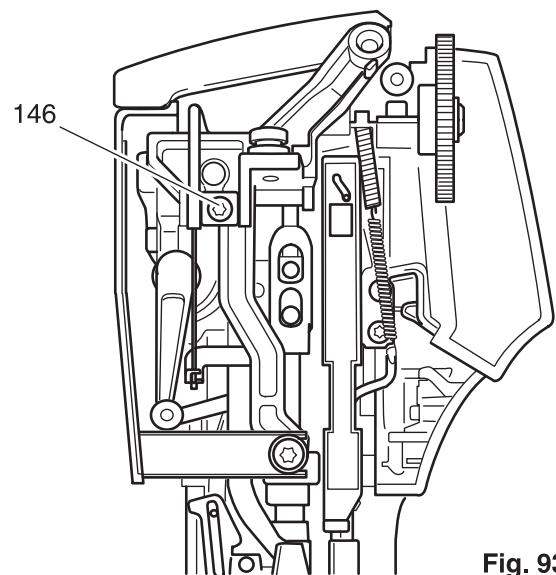

Fig. 93
- Remove screw 146 from the Bowden cable's clamping plate (fig. 93).